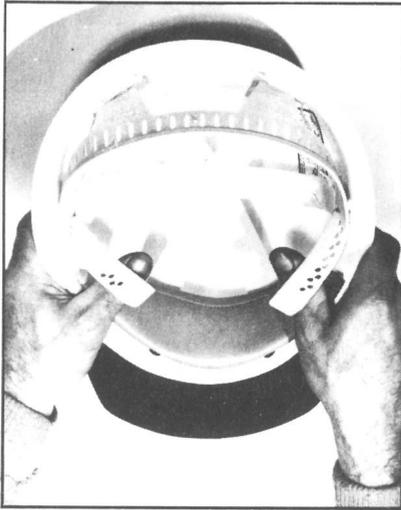

FIGURE 3
e. The suspension is shown in Figure 3.